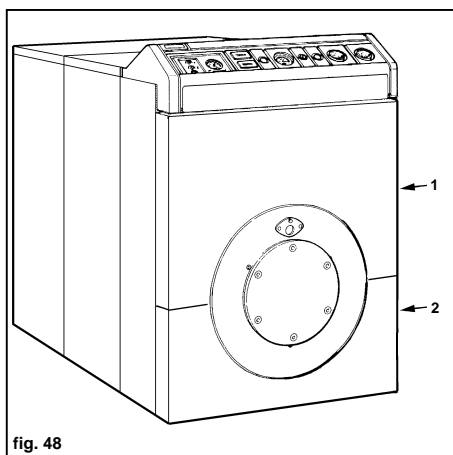

fig. 48
- 2 (fig. 48) Remove the top front panel "1" and the bottom one "2".